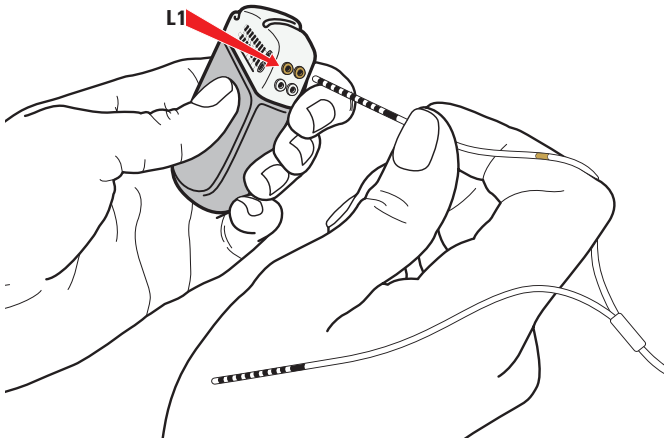

Figure 43. Connection to IPG Port L1
- a. Connect the tail with the gold marker band to the gold Port labeled L1 (Figure 43).